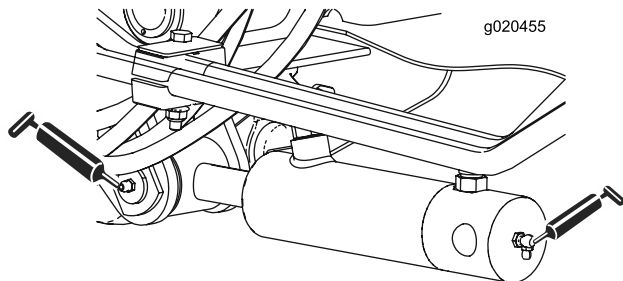

Figure 71
- 2 (each side) lift-arm-cylinder bushings (Figure 71)